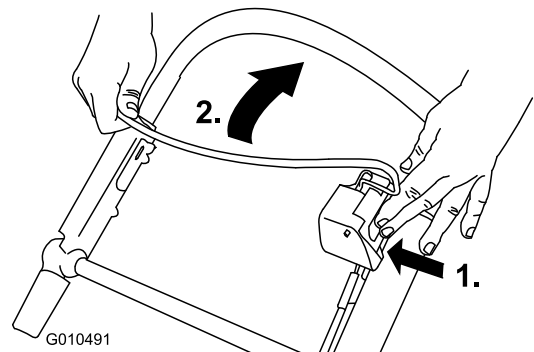

Figure 23
1. Push the blade control button and pull the blade control bar to the handle (Figure 23).